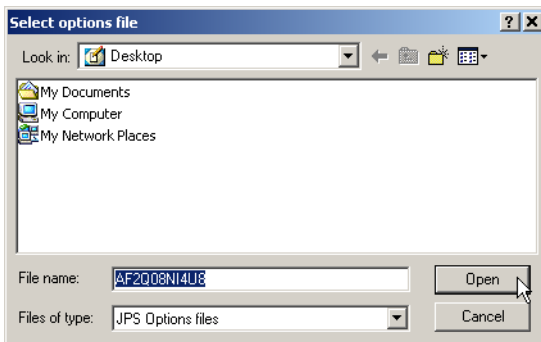

Figure 4-10. Load OAF
3. Navigate to the location of the new Option Authorization File. OAFs have .jpo or .tpo extensions and are unique to each receiver (Figure 4-10).
4. Select the appropriate file and click **Open** (Figure 4-10). The new receiver option loads onto the receiver and the Option Manager table updates.